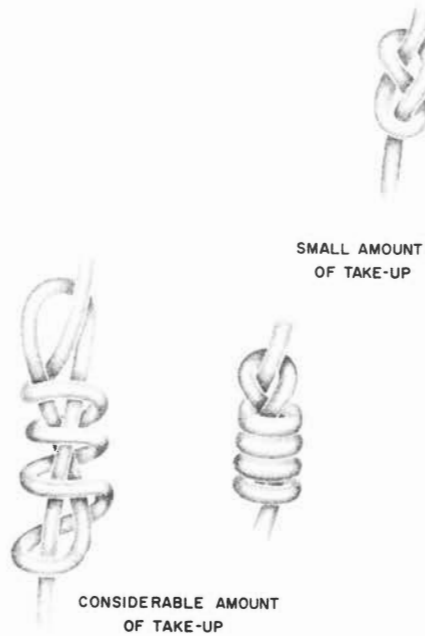

Fig. 10 — Mounting Cord Take-up
5.11 Where location of a subscriber set does not result in raising cords above floor level, cord may be shortened by knotting (see Fig. 10). Locate cord knot near subscriber set.